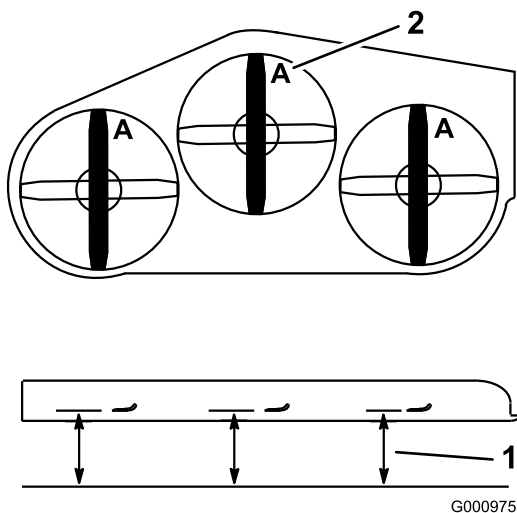

Figure 73
2. Measure from a level surface to the cutting edge, position A, of the blades (Figure 73).